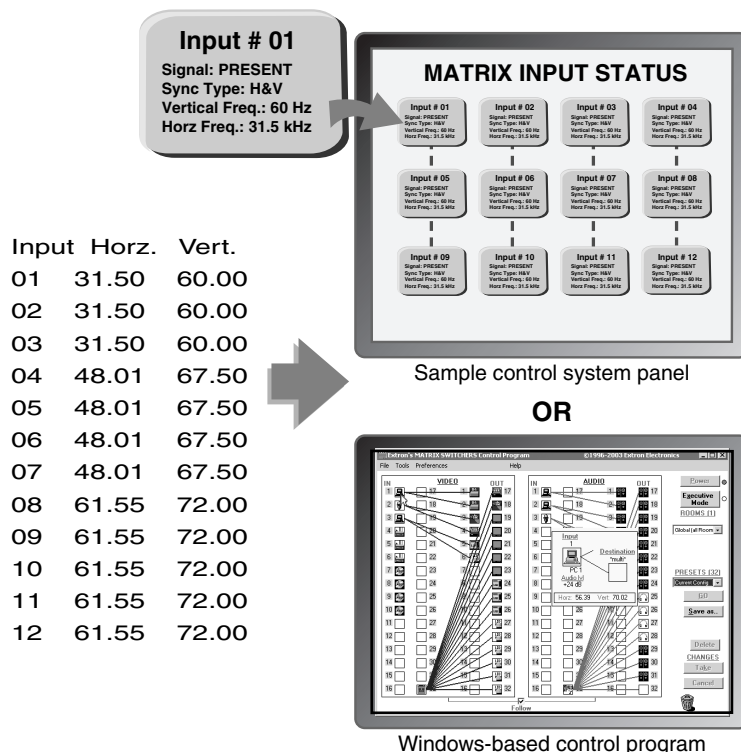

Figure 1-2 — DSVP data display
Digital Sync Validation Processing (DSVP™) — In critical environments or unmanned, remote locations, it may be vital to know that sources are active and switching. Extron's DSVP confirms that input sources are active by scanning all sync inputs for active signals. DSVP provides instantaneous frequency feedback for composite sync or separate horizontal and vertical sync signals via the switchers' serial port or LAN port. The frequency information can be displayed on any control system or in a Windows®-based control program on a local-area network (LAN) or Internet (IP) connection (figure 1-2).